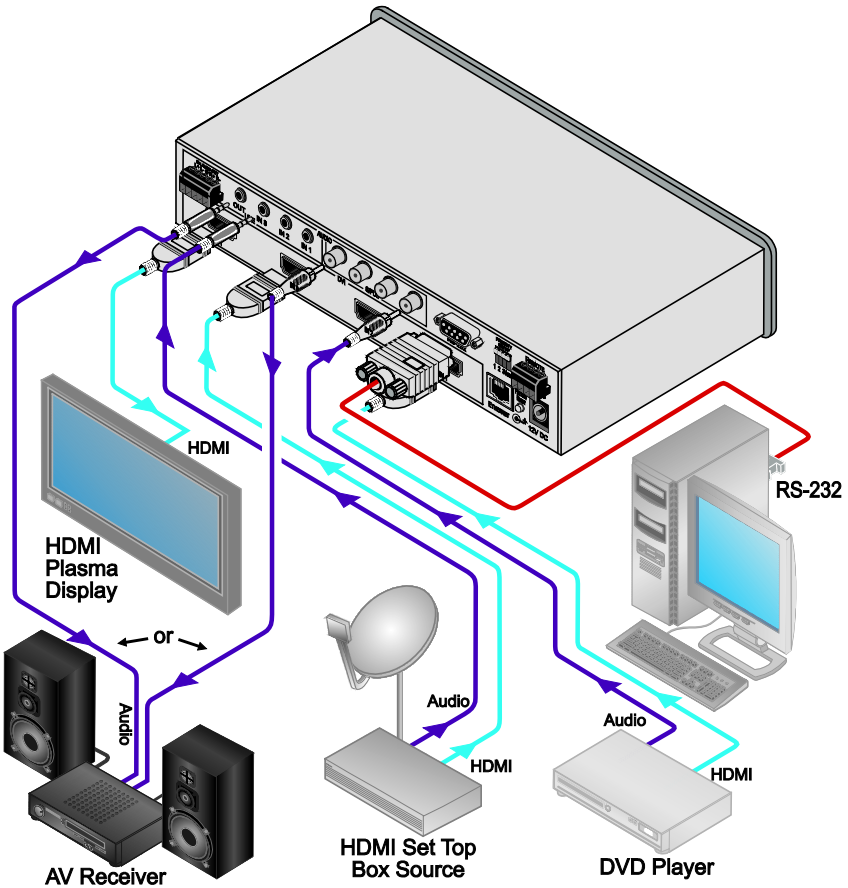

Figure 2: Connecting the VS-311H Automatic HDMI / Audio Switcher
To connect1 the **VS-311H Automatic HDMI / Audio Switcher**, as illustrated in the example in Figure 2, do the following2:
8. Connect the 12V DC power adapter to the power socket and connect the adapter to the mains electricity (not shown in Figure 2).
7 The connection is not illustrated in Figure 2